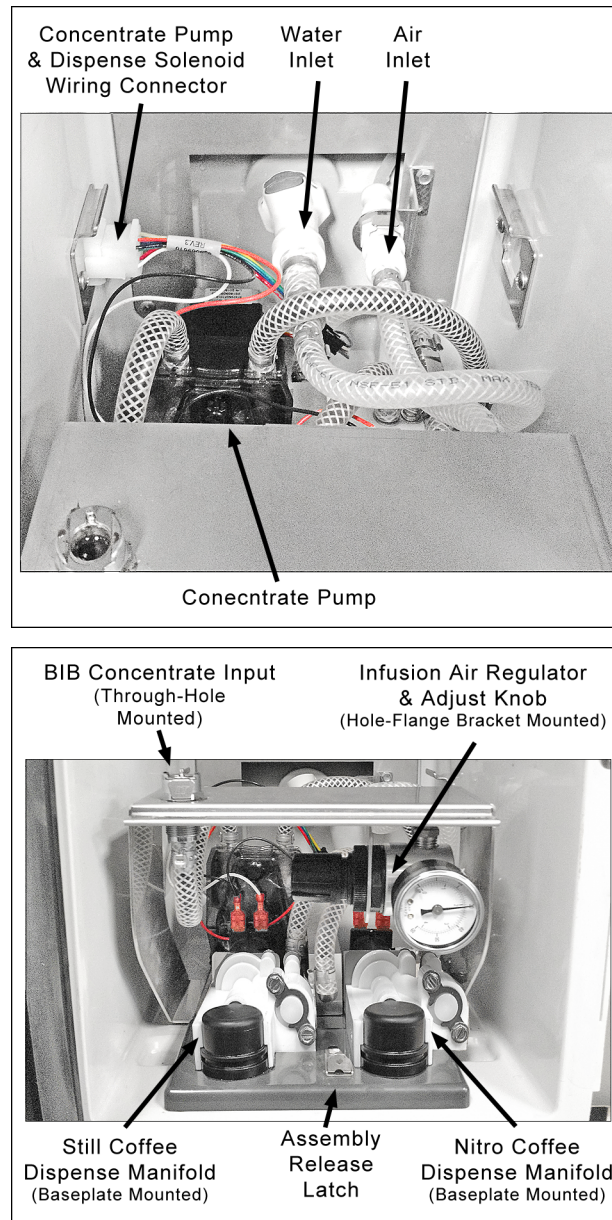

Figure 6-2 - Mixing-Dispensing Assembly in Cabinet
- 2) Pull the assembly release latch (Fig. 6-2) forward and then lift the assembly out of the cabinet and place it on a bench or countertop.